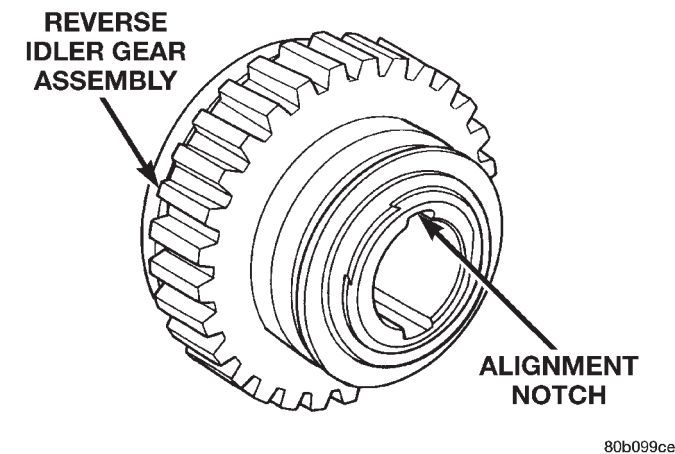

Fig. 91 Align Idler Shaft Pin
(34) Align the pin with the alignment notch in the reverse idler gear assembly (Fig. 91). The alignment notch in the reverse idler gear race/hub is a small relief cut above one of the main longitudinal slots. Be sure that the pin is aligned with the proper slot, the opposite slot has an oil drain hole which the pin will drop into. The assembly will then be locked onto the shaft and will need to be disassembled in order to be removed.